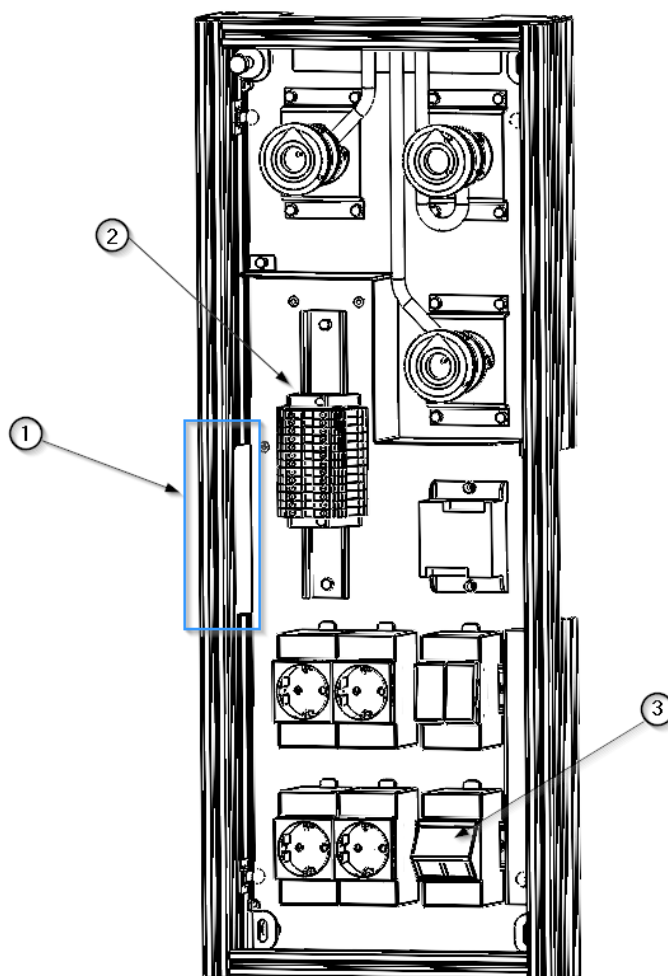

Fig.7 Detail of electrical connection points at ANTEA
The electrical, voice and data circuits enter the equipment through a window ① whose dimension and location are detailed in the installation plan of the equipment. The electrical circuits terminate in a common terminal block ②, except for voice and data, whose connection is direct to the corresponding mechanism ③. See Figure 7.